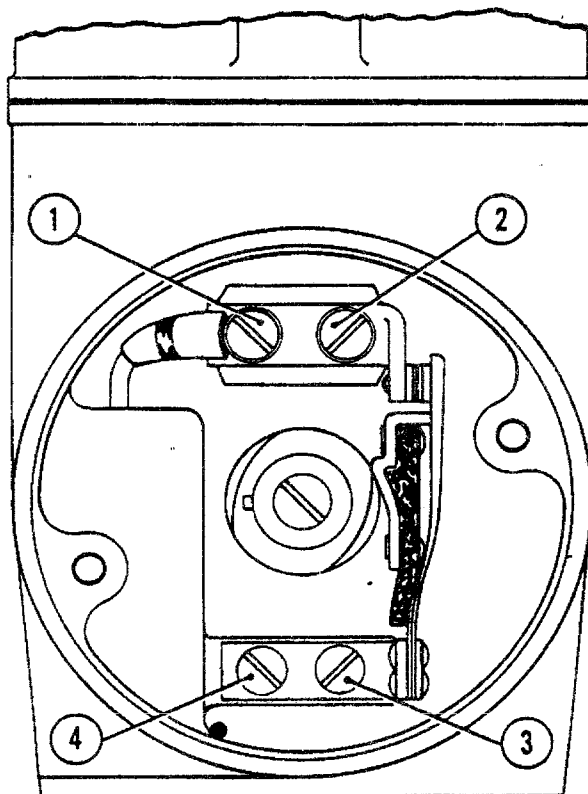

Figure 43. Breaker Mechanism.
(3) If the contacts do not open at the proper time, loosen the two screws, A and B (Fig. 43), which hold the adjustable contact assembly in place and move the adjustable contact assembly to right or left until the two contacts separate when the timing marks are opposite each other. It should be noted that the contact points are not adjusted for any fixed clearance between them.
(4) If the contacts do not line up properly, the location of the contact and cam follower assembly can be adjusted by loosening the two screws, C and D (Fig. 43) which secure the contact and cam follower assembly to the housing. The hole for screw D is slightly oversized to permit this adjustment. After retightening the screws, recheck this adjustment to insure that it is correct.
(5) Insure that the lubrication felt attached to the cam follower is soft and moist with oil. This felt supplies a very minute quantity of lubricant to the breaker cam. If oil appears on the surface when the felt is squeezed between the fingers, do not add any more oil. If the felt is dry, however, moisten with a few drops of medium bodied mineral lubricating oil, SAE 60 or equivalent. Do NOT give it all it will hold.